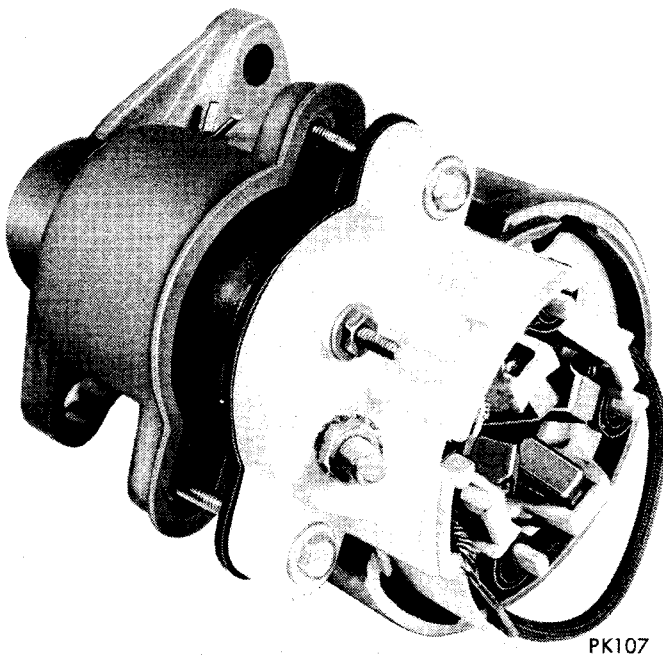

Fig. 8—Removing Solenoid and Brush Plate Assembly From Gear Housing
(9) Remove solenoid and brush plate assembly from gear housing, (Fig. 8).